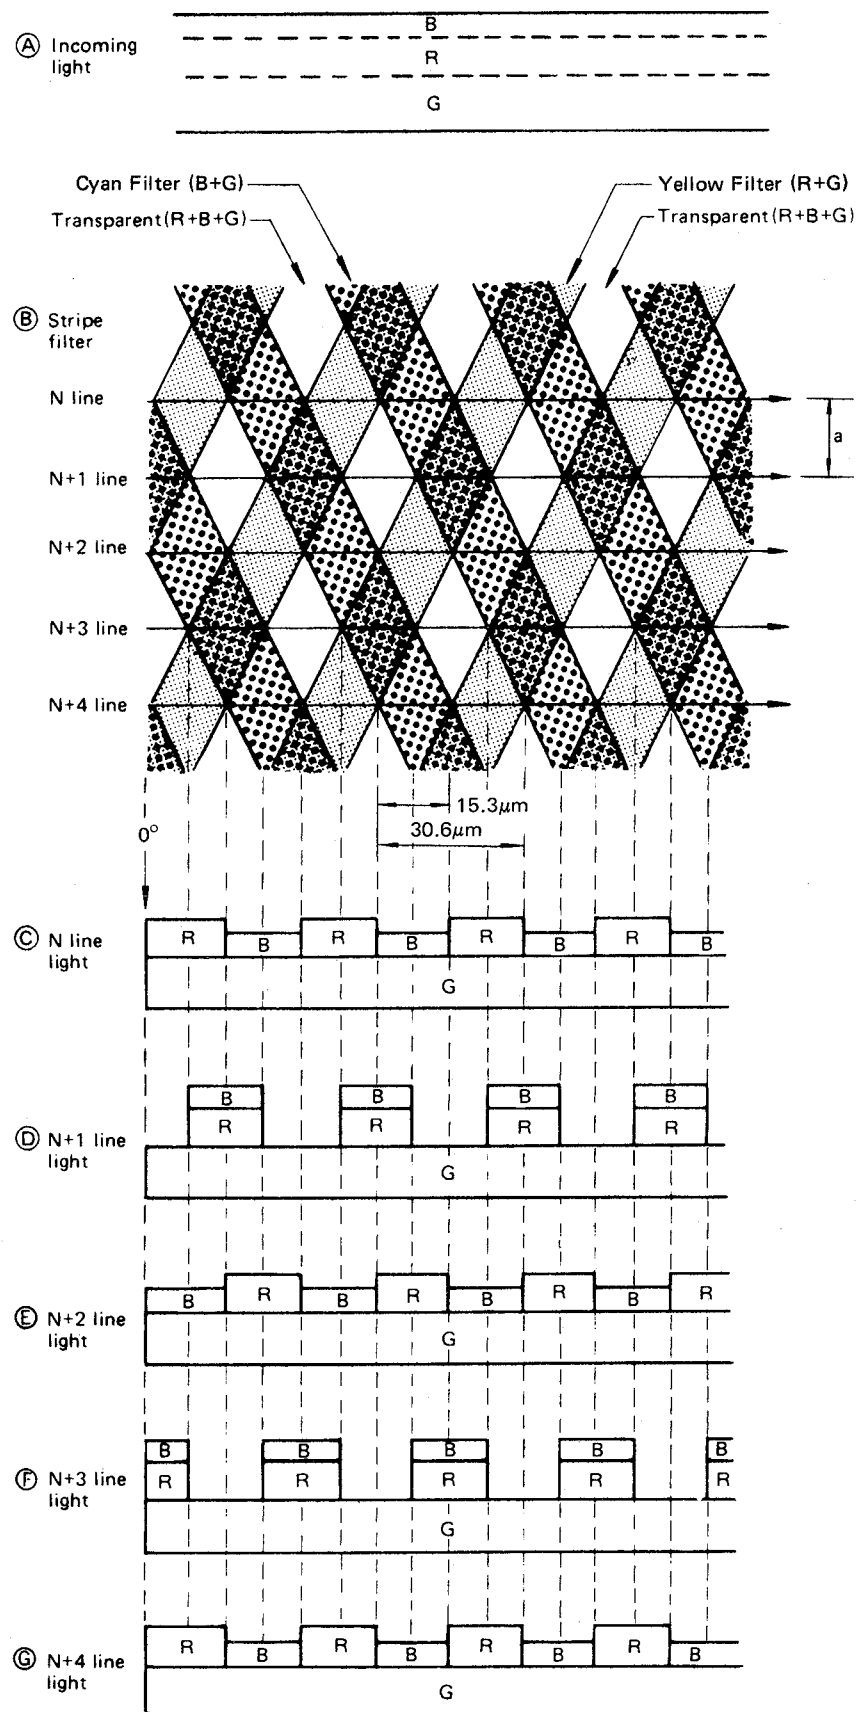

Fig. 1-9 Light from Stripe Filter
As shown in Fig.1-9 ⑥ , the stripe filter integrated into the pick-up tube consists of a cyan/transparent stripe filter section and a yellow/transparent stripe filter section. These stripe filters are so arranged as to be of the same pitch in the horizontal scanning direction, and have equal angles with respect to the vertical. The pick-up tubes even and odd scanning lines pass the tracks of the stripe filters that are arranged in the same way. In other words, the even and odd scanning lines are spaced "a" apart.
For easy understanding, let' assume that light of uniform level containing green(G), red(R), and blue(B) reaches the pick-up tube(Fig. 1-9 ④), and that the crosspoint of cyan and yellow stripe filter is scanned as shown in Fig. 1-9 ⑥ .